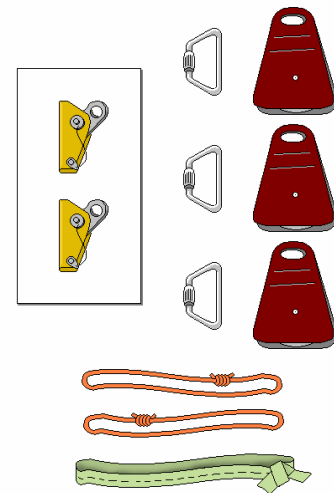

Figure 8-3
- ❑ The equipment required for the construction of the mechanical advantage system is commonly carried in a pocket in one of the two rope bags, bagged separately, or preassembled and attached to a lifeline in a separate rope bag. (Figure 8-3)